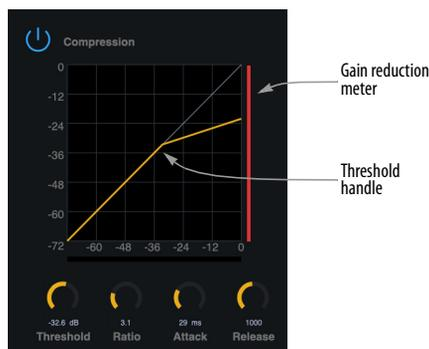

Figure 6-2: The Compressor.
All analog input channels (items 1 and 2 on page 48) provide a *Compressor* (Figure 6-2).
The *Compressor* lowers the level of the input when amplitude of the signal is above the Threshold. The amount of attenuation is determined by the *Ratio* and the input level. For example, if the input is 6 dB above the *Threshold* and the *Ratio* is 3:1, the compressor will attenuate the signal to 2 dB above the Threshold. When the input level goes above the threshold, the attenuation is added gradually to reduce distortion. The rate at which the attenuation is added is determined by the *Attack* parameter. Likewise, when the input level falls below the Threshold, the attenuation is removed gradually. The rate at which the attenuation is removed is determined by the *Release* parameter. Long Release times may cause the audio to drop out briefly when a soft passage follows a loud passage. Short Release times may cause the attenuation to “pump”, a term used to describe the sound of the compressor when the average input level quickly fluctuates above and below the Threshold. These issues can be addressed by adjusting the parameters. The *Gain reduction meter* (Figure 6-2) displays the attenuation applied by the compressor.